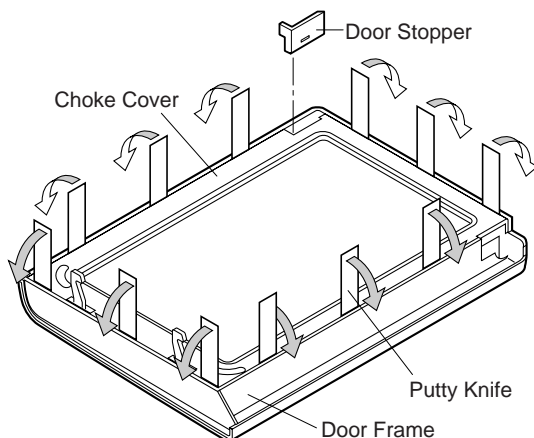

Figure C-4. Door Disassembly
- Insert a putty knife (thickness of about 0.5mm) into the gap between the choke cover and door stopper as shown in Figure C-4 to free engaging parts.
- Pry the choke cover by inserting a putty knife as shown Figure C-4.